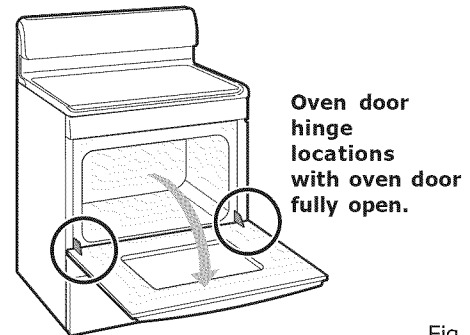

Fig. 1
1. Open oven door completely (horizontal with floor - Fig.1).